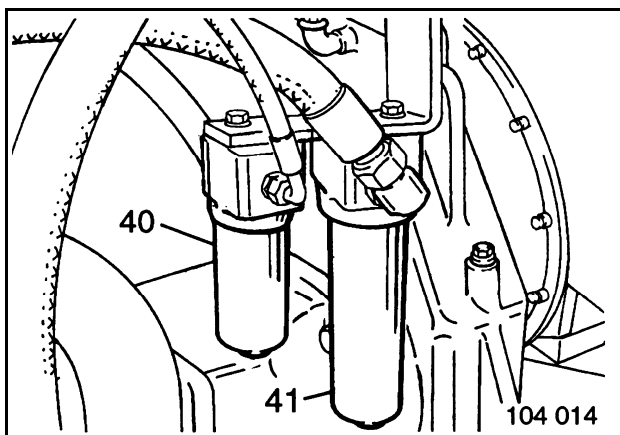

Fig. 3-65:
The excavator is equipped with a high-pressure filter (40, Fig. 3-65:) for the servo circuit and another filter (41) for the feeding circuit of the slewing pump.